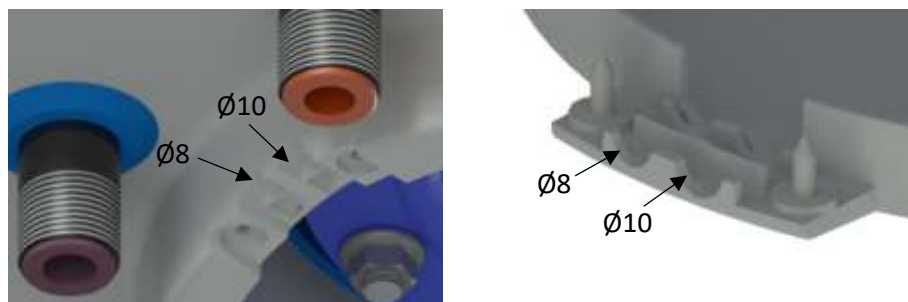
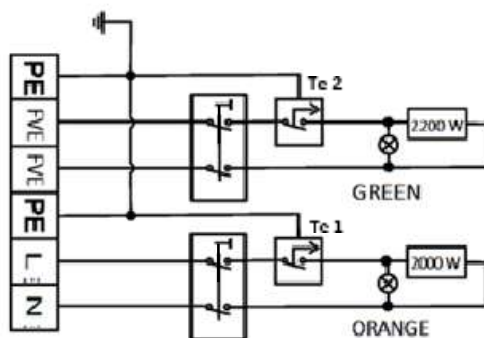
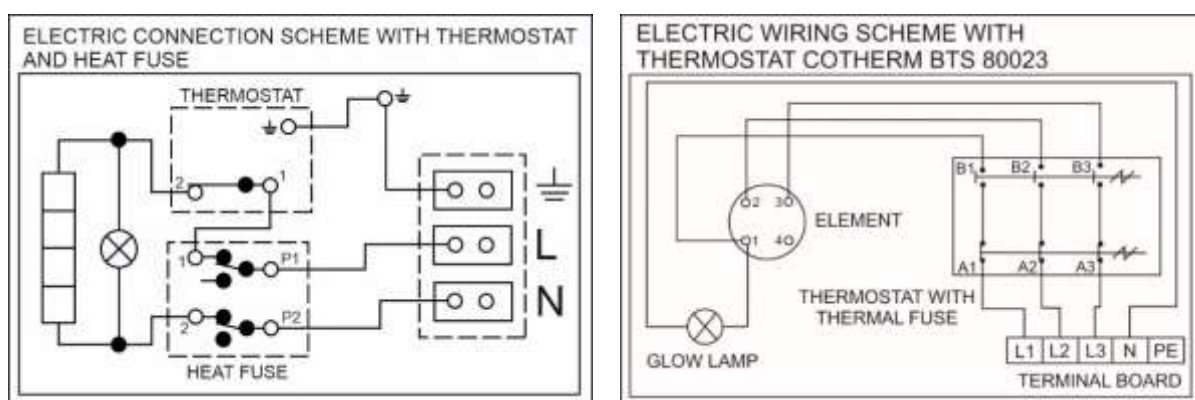

Figure 9
Figure 10
Figure 11
Perform the connection according to the scheme. Factory connection must not be changed! (Figure 10, Figure 11) the electric wiring casing remove the partition corresponding with the input wire diameter of $\varnothing 8$ or $\varnothing 10$ (Figure 9). The degree of protection of electric parts of the heater is IP 44. Power input of electric element is 2200 W and 2000 W for heater OKF /1m² 2/2 kW. Power input of electric element is 2000 W and 4000 W for heater OKF /1m² 2/4 kW.
- The electric wiring scheme is attached to the water heater on the side of the electric installation guard (Figure 10, Figure 11).